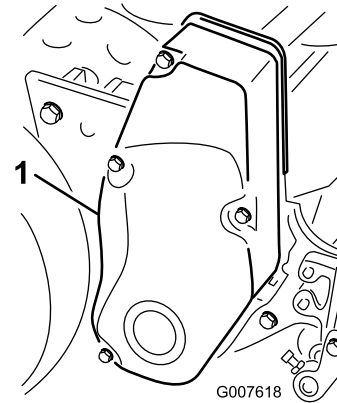

Figure 41
1. Remove the belt-cover mounting fasteners and the belt cover to expose the belt (Figure 41).